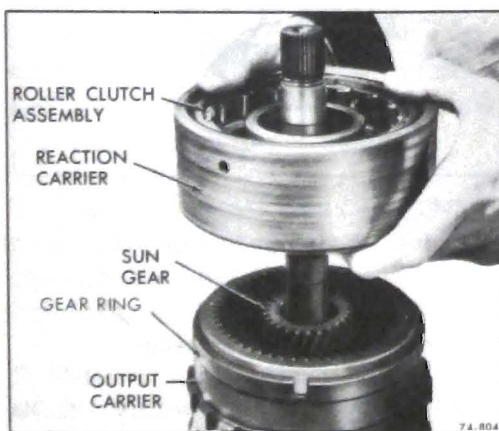

Figure 76-562
4. Remove reaction carrier and roller clutch assembly. See Figure 76-562.